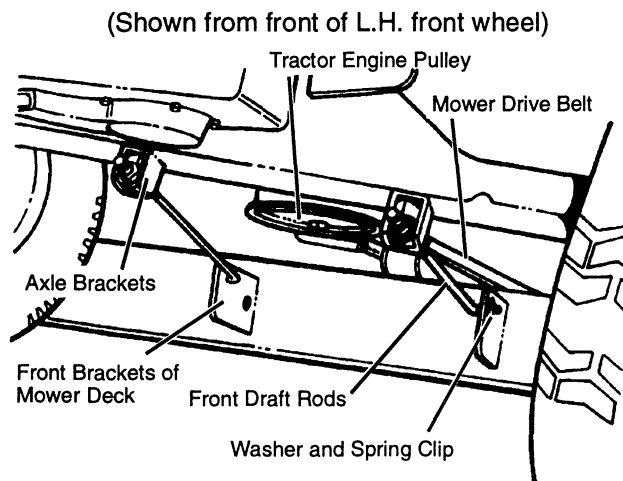

FIG. 8
- Remove the front draft rod assemblies from parts bag and insert through holes in axle brackets on the bottom of front axle. (See Fig. 8)
- Position mower drive belt onto tractor engine pulley, inside of the belt guides. (See Fig. 8 and 9)